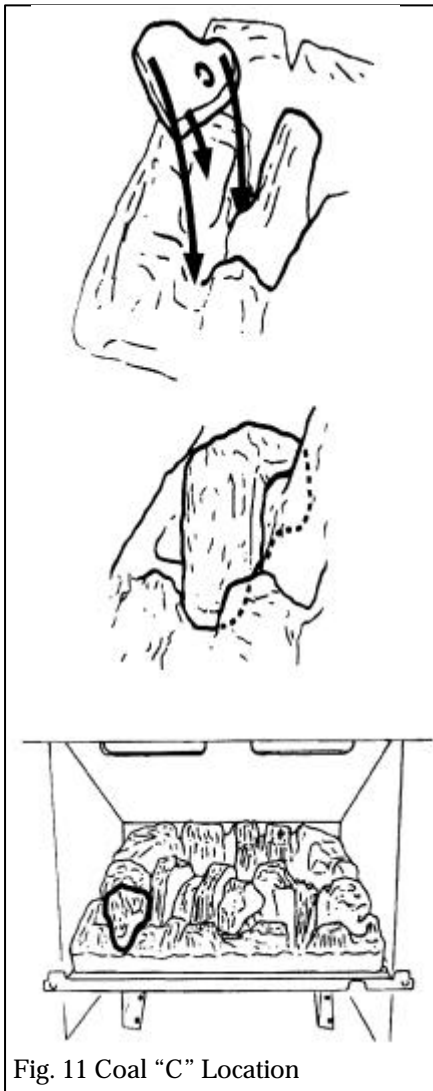

Fig. 11 Coal "C" Location
10.1.3 Position the front left coal (embossed "C" on its underside) in the well in the coal bed marked "C" - see figure 11. The narrow "nose" should locate in the "U" shaped cut-out at the front left of the coal bed. The bottom of the coal should rest on the ridges at each side of the location well marked "C" in the coal bed. The 'ear' at the rear right of coal "C" should rest in the depression in the ridge at the right side of the wall.